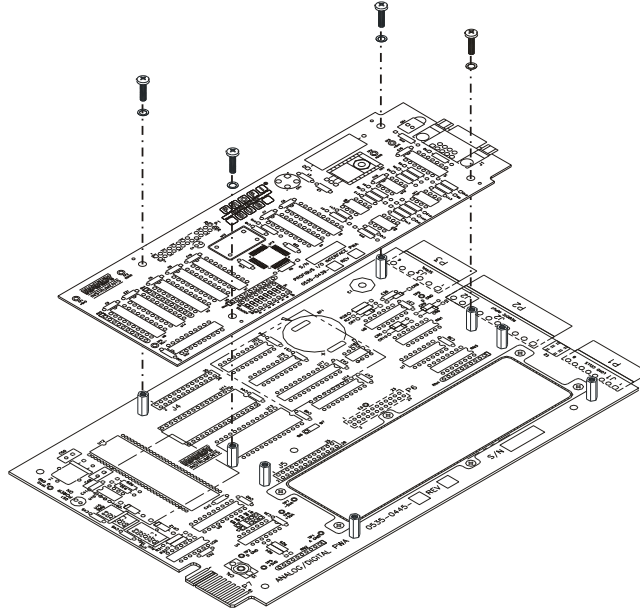

Figure 2-5
10. The through holes on the PROFIBUS Interface Card should line up with the threaded holes in the standoffs. A little adjustment is sometimes necessary to line them up. (See Fig. 2-5)
11. Place the washers over the holes on the component side of the PROFIBUS Interface Card and install the four Phillips pan head SEM screws (See Fig. 2-5).